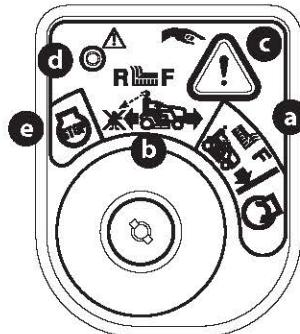

Figure 26
- Turn the ignition key from the NORMAL MOWING MODE (a) position to the REVERSE CAUTION MODE (b) position of the ignition switch (Figure 26).
- Press and hold the REVERSE CAUTION MODE BUTTON (c) at the top, right corner of the ignition module for 3 seconds. The red indicator light (d) at the top, left corner of the ignition module will be ON while activated (Figure 26).
- Once activated (indicator light ON), the tractor can be driven in reverse with the PTO (blade engage) lever in the engaged (ON) position.
- Always look down and behind before and while backing up slowly to make sure no children are around. After resuming forward motion, return key to the NORMAL MOWING MODE (a) position to return to normal mowing operation (Figure 26).
- The key is placed in either the NORMAL MOWING (a) position or STOP (e) position (Figure 26).